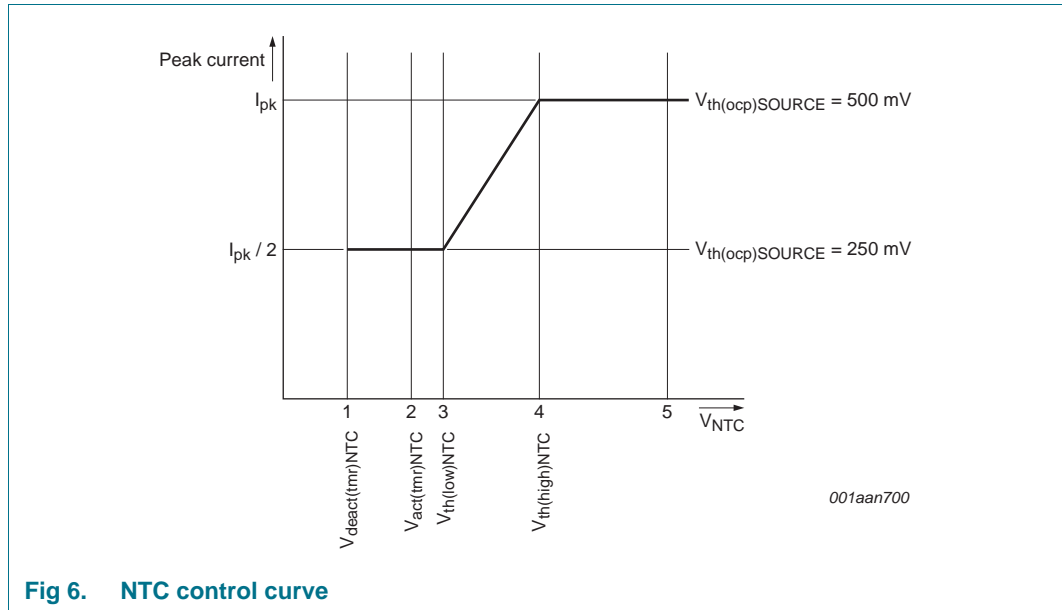

Fig 6. NTC control curve
The NTC pin can be used as a control method for LED thermal protection. Alternatively, the pin can be used as an input to disable/enable light output using a digital signal (PWM dimming). The pin has an internal current source that generates the current of $I_{\text{offset}(NTC)}$. An NTC resistor to monitor the LED temperature can be directly connected to the NTC pin. Depending on the resistance value and the corresponding voltage on the NTC pin, the converter reacts as shown in Figure 6.
When the voltage on the NTC pin exceeds $V_{th(high)NTC}$ (see Figure 6 \(4\)), the converter delivers nominal output current. When the voltage is lower than this level, the peak current is gradually reduced until $V_{th(low)NTC}$ is reached (see Figure 6 \(3\)). The peak current is now half the peak current of nominal operation. When $V_{act(tm_r)NTC}$ is passed (see Figure 6 \(2\)) a timer starts to run to distinguish between the following situations:
- If the low-level $V_{deact(tm_r)NTC}$ is not reached within time $t_{to(deact)NTC}$ (see Figure 6 \(1\)) LED overtemperature is detected. The IC stops switching and attempts to restart from the HV pin voltage. The converter restarts from an NTC protection shutdown when the voltage on the NTC pin exceeds $V_{th(high)NTC}$ (see Figure 6 \(4\)). It is assumed that the reduction in peak current does not result in a lower NTC temperature and LED OTP is activated.
- If the low-level $V_{deact(tm_r)NTC}$ is reached within the time $t_{to(deact)NTC}$ (see Figure 6 \(1\)) it is assumed that the pin is pulled down externally. The restart function is not triggered. Instead, the output current is reduced to zero. PWM dimming can be implemented this way. The output current rises again when the voltage is higher than $V_{th(low)NTC}$.
The NTC pin can be used to make a soft start function. During switch-on, the level on the NTC pin is low. By connecting a capacitor (in parallel with the NTC resistor), a time constant can be defined. The time constant causes the level on the NTC pin to increase slowly. When passing level $V_{th(low)NTC}$ (see Figure 6 \(3\)), the convertor starts with half of the maximum current. The output current slowly increases to maximum when $V_{th(high)NTC}$ (see Figure 6 \(4\)) is reached.